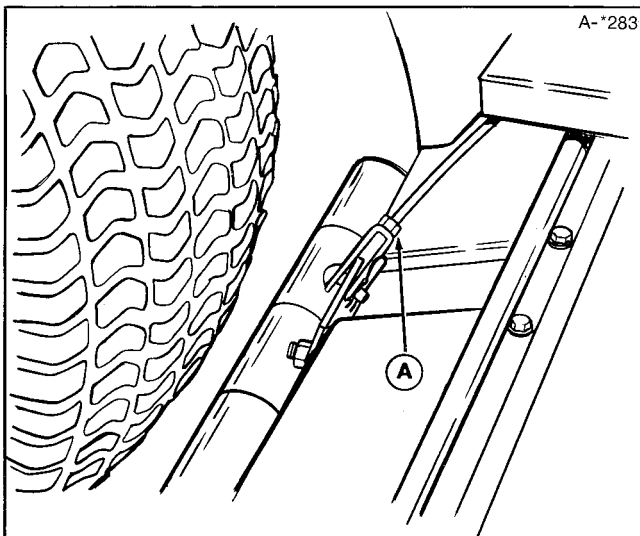

Figure 12. Mower Pulley
10. Attach the lift cable to the mower lift bracket (figure 12).